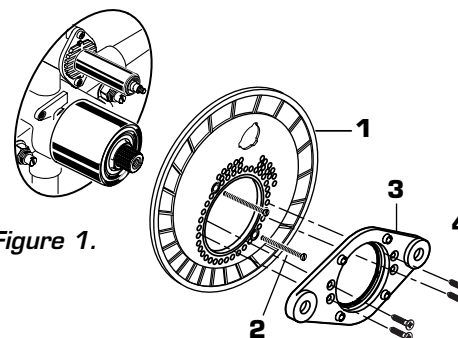

Figure 1.
- **Figure 1.** Mount ESCUTCHEON HOLDER (1) and gasket to valve body with SCREWS (2). Mount ESCUTCHEON SUPPORT (3) to ESCUTCHEON HOLDER (1) with SCREWS (4).